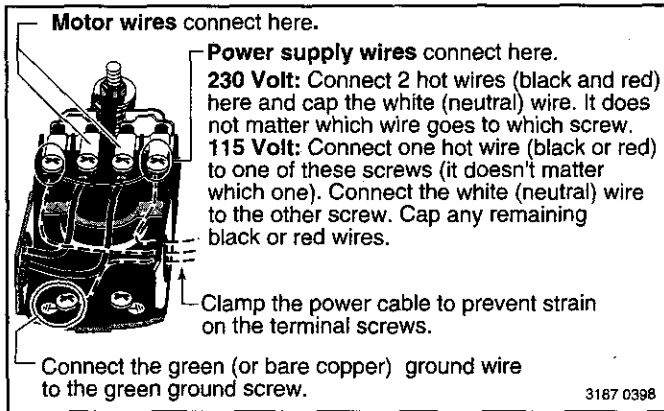

Figure 6 – Pressure Switch Wiring
4. Connect the power supply wires to the pressure switch as shown in Figure 6.